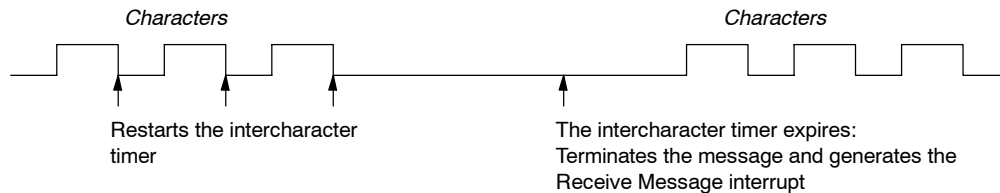

Figure 6-11 Using the Intercharacter Timer to Terminate the Receive Instruction
2. *Intercharacter timer:* The intercharacter time is the time measured from the end of one character (the stop bit) to the end of the next character (the stop bit). If the time between characters (including the second character) exceeds the number of milliseconds specified in SMW92 or SMW192, the receive message function is terminated. The intercharacter timer is restarted on each character received. See Figure 6-11.